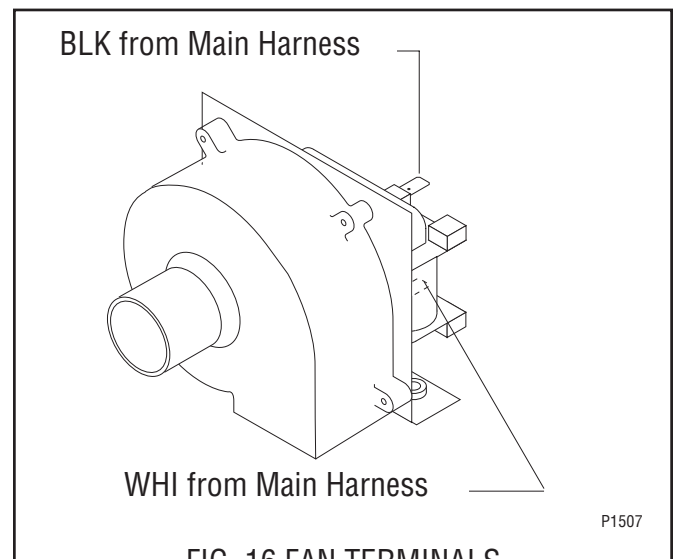

FIG. 16 FAN TERMINALS
4. Refer to Fig. 16 and connect the wires to the new fan.